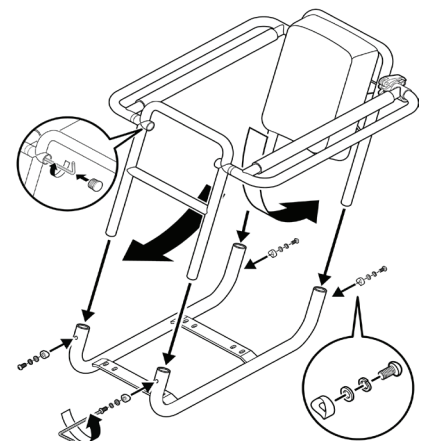

Figure 1 Assemble the Caboose.
- a. Unfold the Caboose legs and position above the base for assembly (see Figure 1).